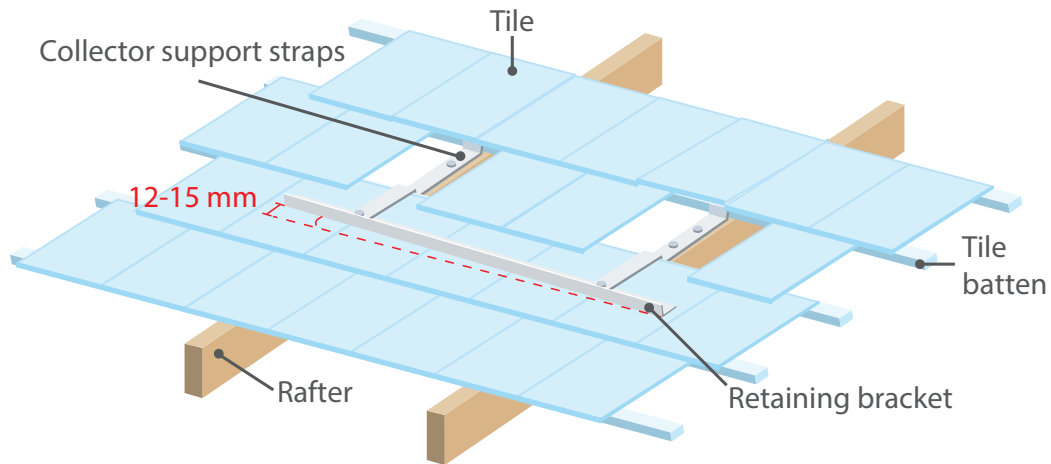

Figure 21: Passive SWH System On A Corrugated Metal Roof Installed Slightly Skewed To Ensure Thermosiphon Effect Occurs
- The lower rail for Passive SWH system must be skewed (angled) by 12 to 15 mm per collector to ensure the thermosiphon effect works correctly (see Figure 21). This means that the hot return end is positioned higher than the cold entry end.